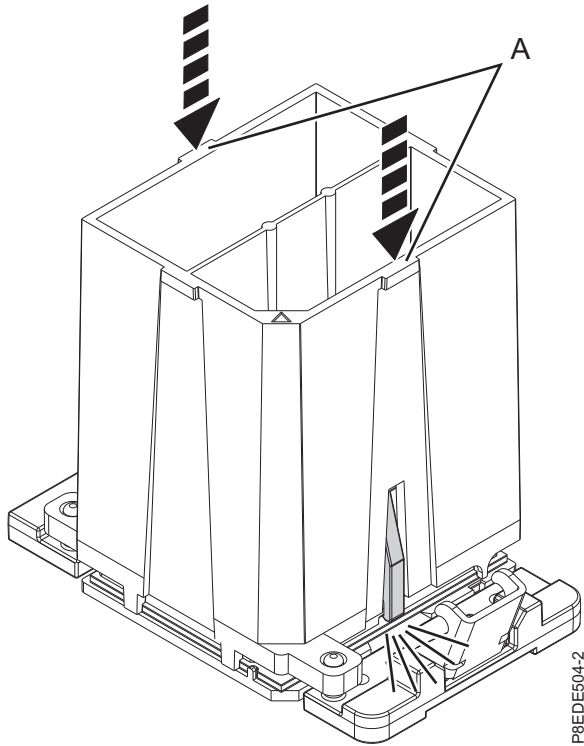

Figure 127. Locking the system processor module into the tool
- c. With the removal tool (A) sitting on top of the system processor module, push down on the tool to lock the system processor module into the tool, as shown in Figure 127 on page 129. Make sure that both of the tool jaws are locked on the system processor module. Do not press the blue release tabs until directed to do so later.